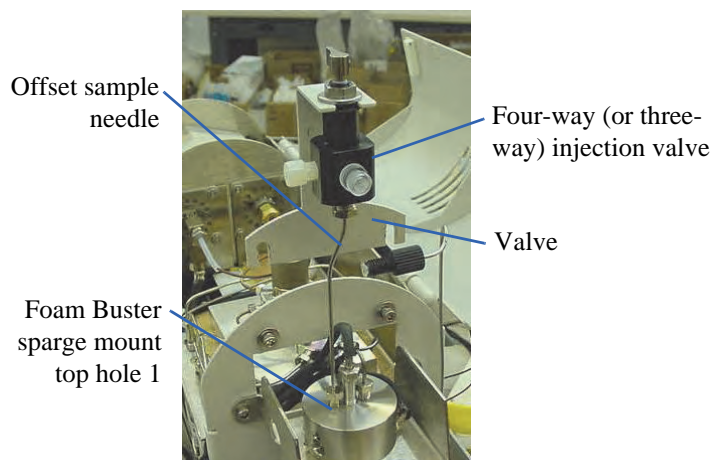

Figure 8.11. Installing the sample needle on the Foam Buster sparge mount
4. Insert the offset sample needle into the Foam Buster sparge mount's top hole 1 (Figure 8.11).